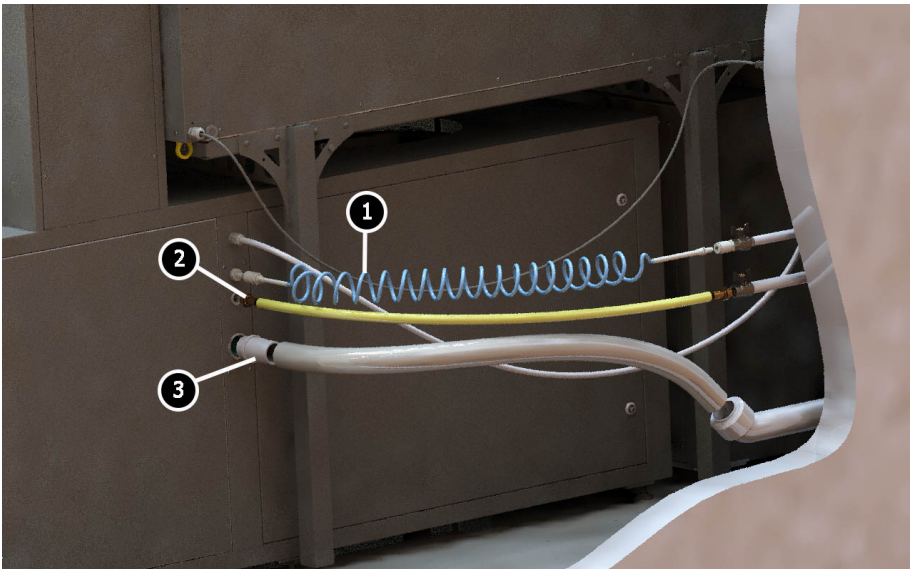

Рисунок 22. Подключение коммуникаций
8. Connect utilities as shown in Fig. 22:
– Compressed air source using a coiled air hose (item 1, Fig. 22).
– Water supply. Screw a brass  $\frac{1}{2}$ " connector into the stand, sealing the thread. Put a hose on the connector and secure it with a worm gear clamp (16-27 mm) (item 2). Similarly, connect the other end of the hose to the water supply tap.
– Water drain. Screw a drain water connector into the stand (item 3), sealing the thread. Put a PVC hose (50 mm) on it and secure it with a worm gear clamp (50-70 mm). Insert the other end of the hose into the water drain pipe.